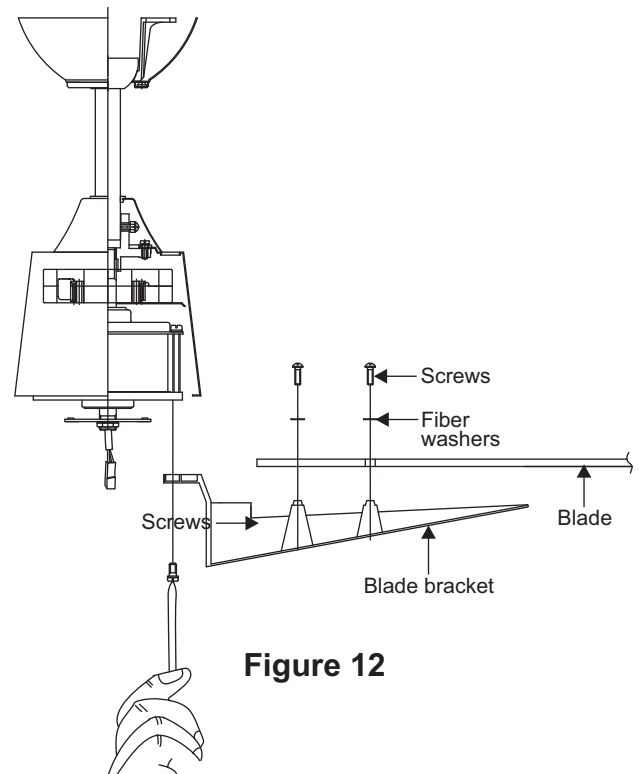

Figure 12
Step 1. Attach the blade to the blade bracket using the screws and fiber washers as shown in Figure 12. Start screw into bracket. Repeat for the two remaining screws.
Step 3. Fasten blade assembly to motor using the screws supplied. (Fig. 12)